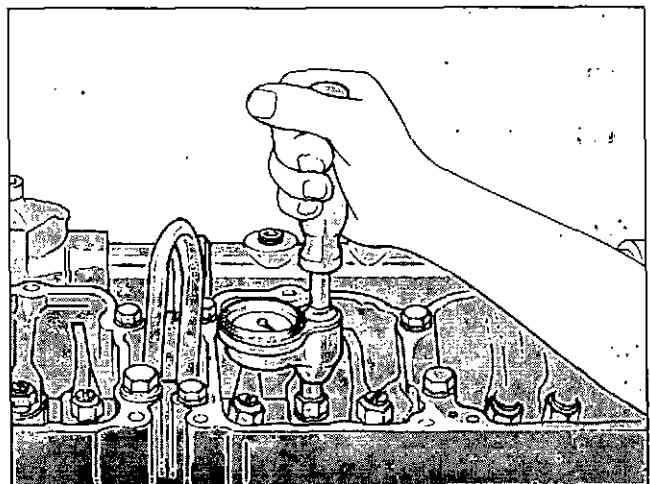

Fig. 14-76. Tighten The Adjusting Screw.
4. Tighten the adjusting screw to 5 to 6 in.-lbs. [0.56 to 0.68 N•m] torque. Use the Part No. 3375232 Torque Wrench to tighten the screw, Fig. 14-76. If you do not have a torque wrench, tighten the screw until there is light pressure against the injector link. The link must be free enough that you can rotate it with your hand.